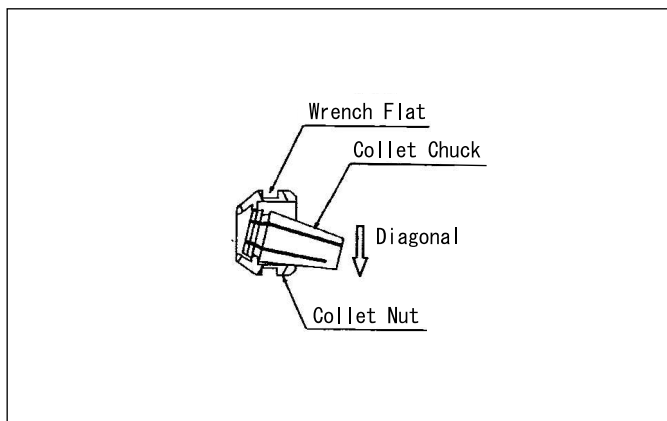

Fig 16
- 2) Hold the collet nut in your fingers and apply pressure diagonally until the collet snaps out of the collet nut. (Fig 16)